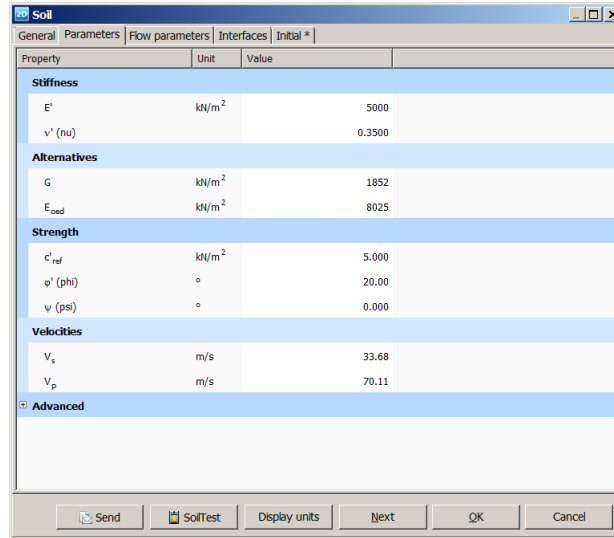
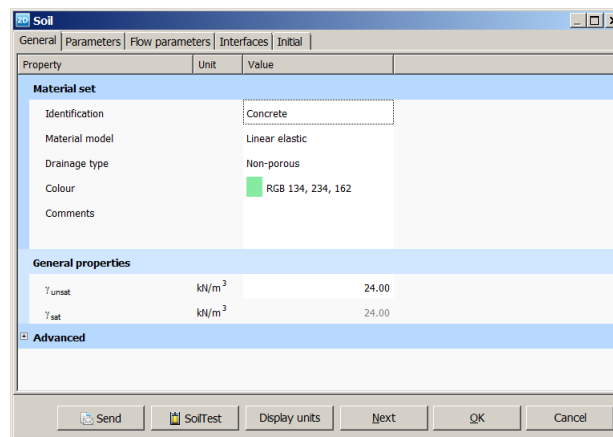

Figure 8: Parameters tabsheet of the soil and interface data set window for Clay
Figure 9: General tabsheet of the soil and interface data set window for Concrete
- See also figure 8 and figure 9. In these figures the *Advanced* parameters part has been collapsed.
- For the concrete of the footing repeat the former procedure, but choose a *Linear Elastic* material behaviour and enter the properties for concrete as shown in table 1 (see also figures 9 and 10).